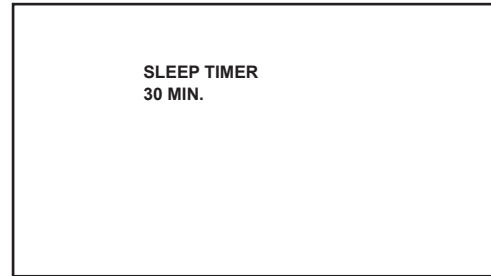
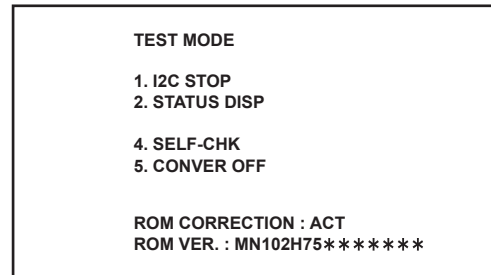

Fig.1
Fig.2
<p style="text-align: center;">Fig.1</p> <p style="text-align: center;">Fig.2</p>
- (1) Set the < SLEEP TIMER 30 MIN. > with [SLEEP TIMER] key. (Fig.1)
- (2) During the < SLEEP TIMER 30 MIN. > display, press [DISPLAY] key and [VIDEO STATUS] key at the same time.
- (3) Then < TEST MODE > screen is displayed. (Fig.2)